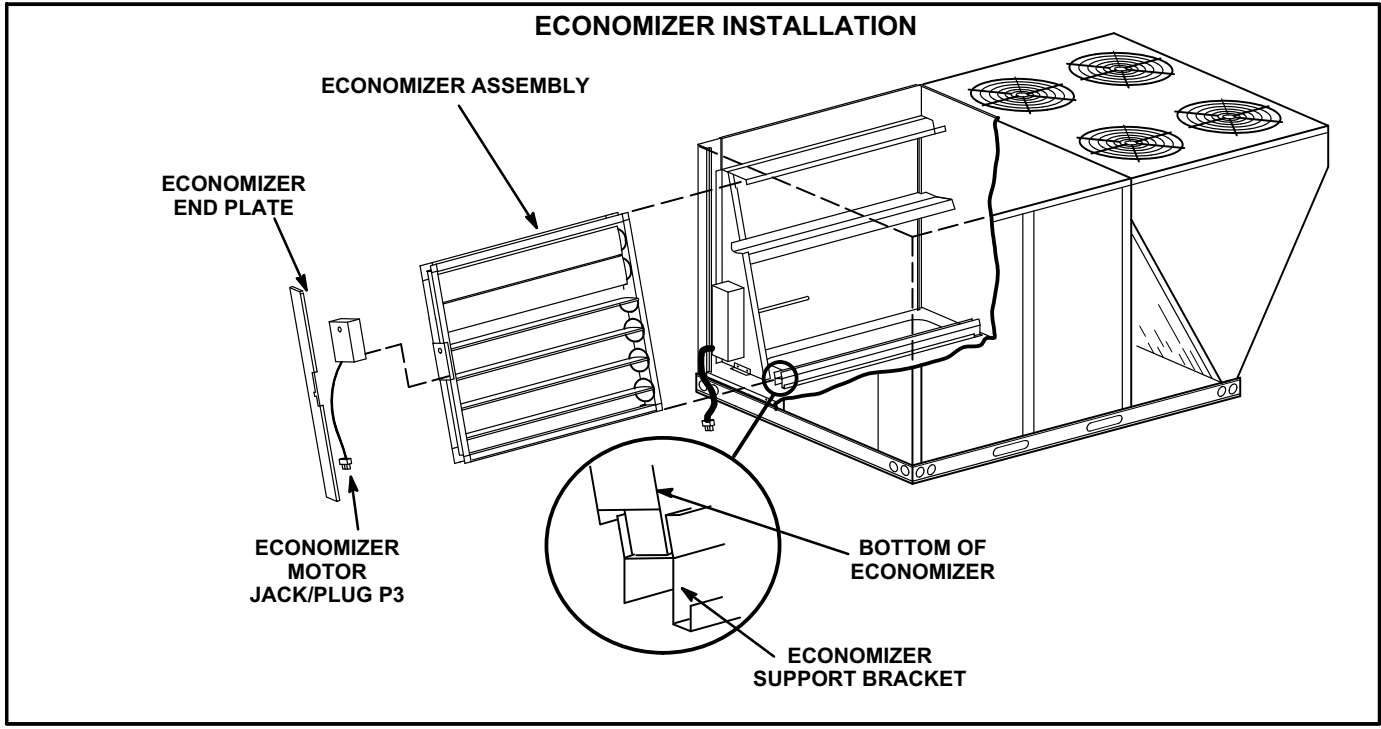
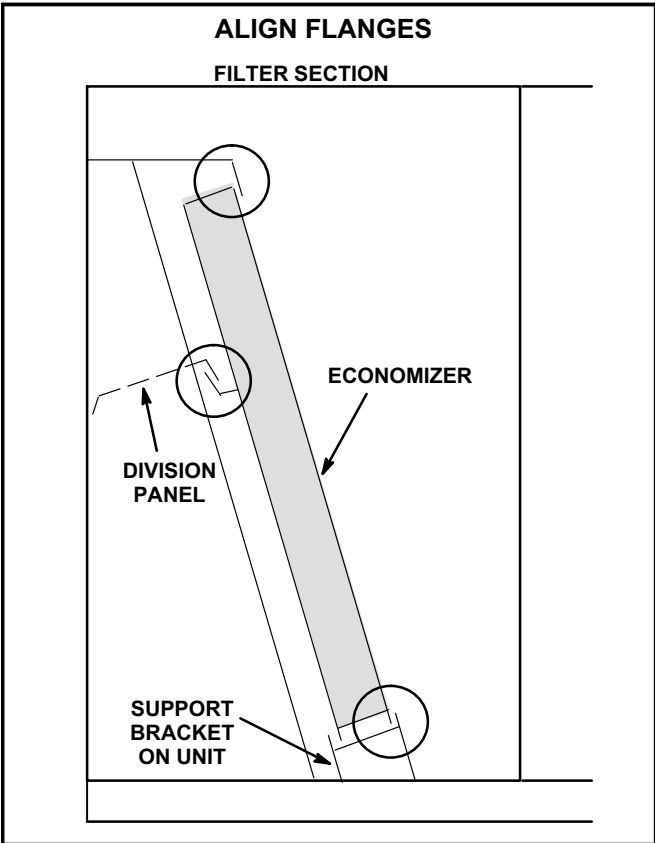

FIGURE 11
FIGURE 14
- 3- Align bottom of economizer with economizer support bracket and slide economizer into unit. See figure 11. Make sure the flanges align as shown in figure 14.